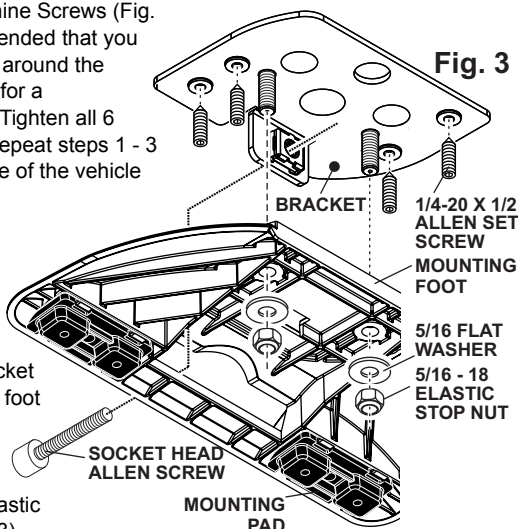

Fig. 3
- Install mounting bracket to mounting foot using supplied 5/16 Flat Washers and 5/16 - 18 Elastic Stop Nuts (Fig. 3).